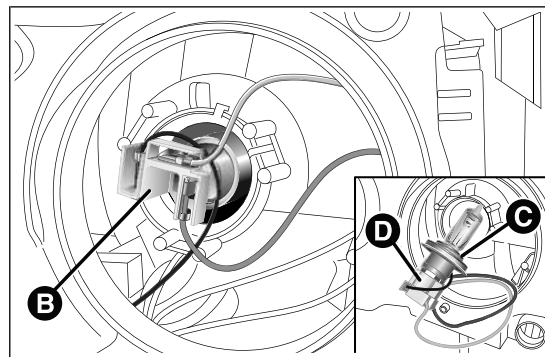

fig. 123
- ☐ push the connector + bulb holder unit B fig. 123 downwards;